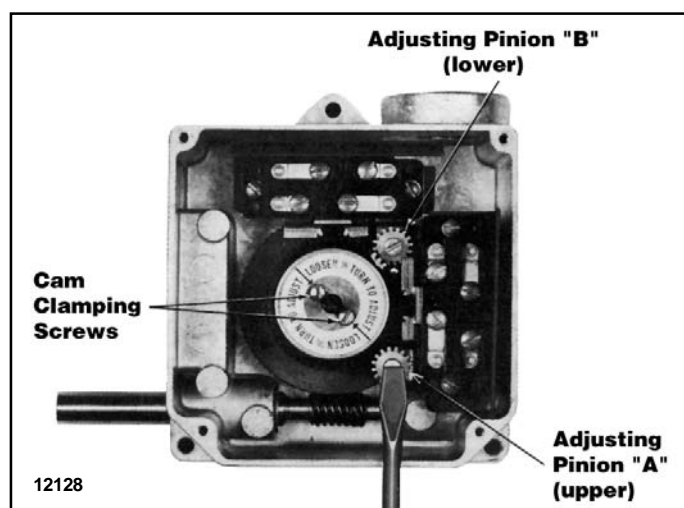

Figure 9-5. Geared Rotary Limit Switch
**b. Adjustment.** Adjustment of rotary limit switch is accomplished as follows: (See Figure 9-5.)